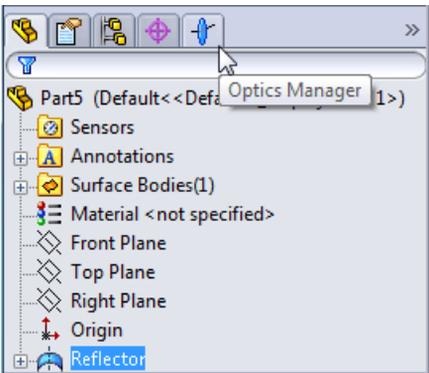

Figure 34 Clicking the Optics Manager tab on the FeatureManager
- 1 Click the Optics Manager tab,  on the Feature PropertyManager. See Figure 34.